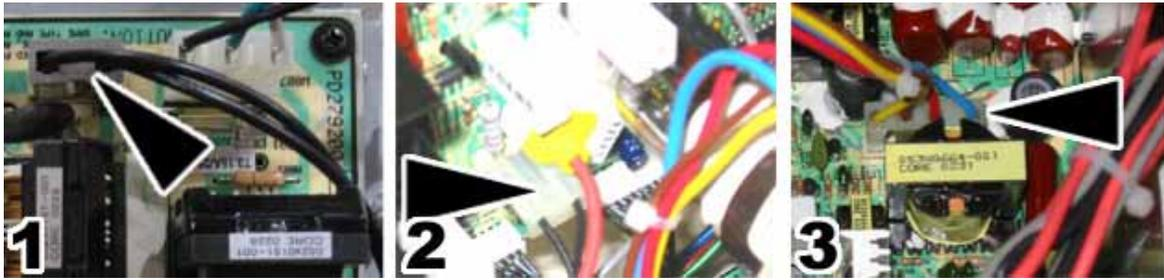

Figure 28. Monitor PCB Cables
7. Refer to Figure 28 to disconnect the next three cables:
- a. Disconnect the CRT 2-wire ground cable that connects to the Chassis Monitor PCB (Item 1 in Figure 28).
- b. Disconnect the CRT 2-wire ground cable that connects to the Chassis Neck PCB (Item 2 in Figure 28).